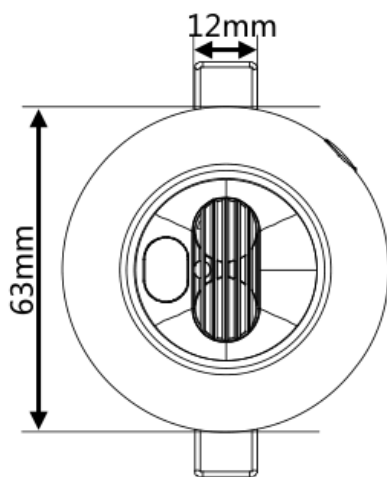

Figure 2. Dimensions - Front View
(1) Dimensions - See Figure 2 – 4